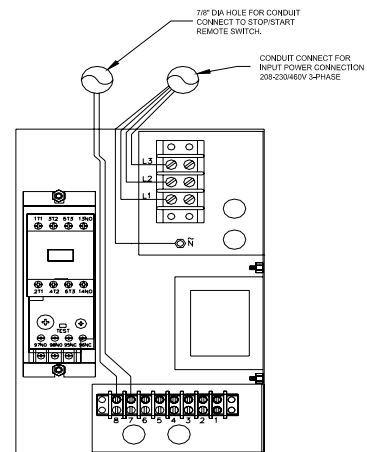

FIGURE 4
- Make connections from power supply to terminals L1, L2, and L3. Wire size should be suitable for the motor HP that was supplied for your application (5HP or 7½HP). Make connections from remote start/stop switch to terminals 7 and 8 (see Figure 4).